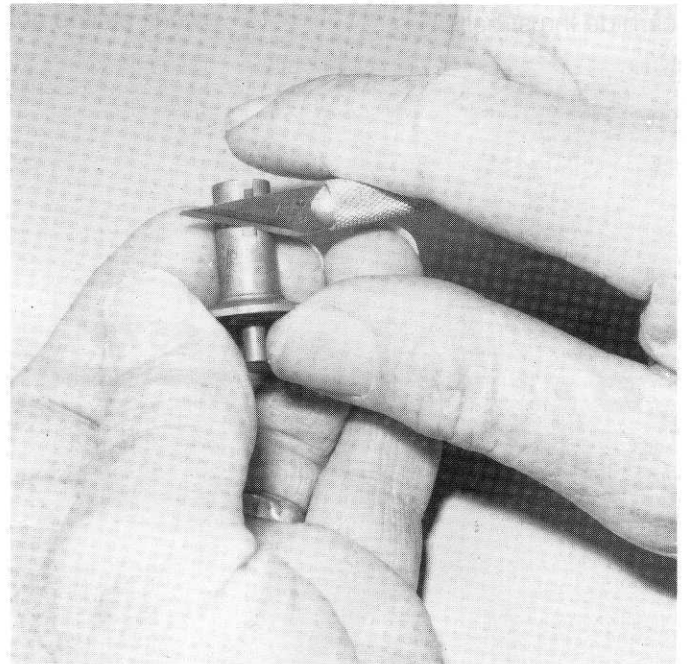

Fig. 42
□ **Fig. 42** Take an Exacto knife and trim off any of the plastic T-nut that extends outside of the slot, as shown.